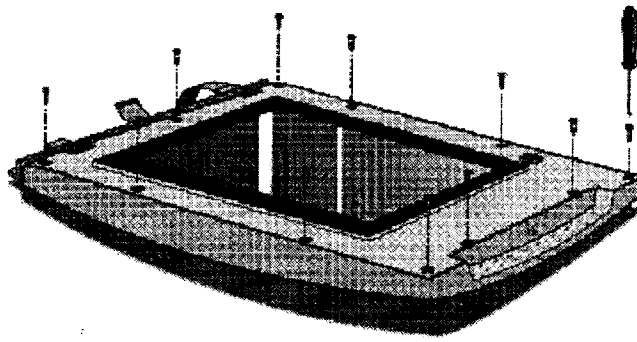

Fig. 5.5
2. Remove the housing of the transparency module (Figure 5.5).
9. Remove the top three screws on the lamp assembly (Figure 5.5).
10. Remove the flexible cable and connector (Figure 5.5).